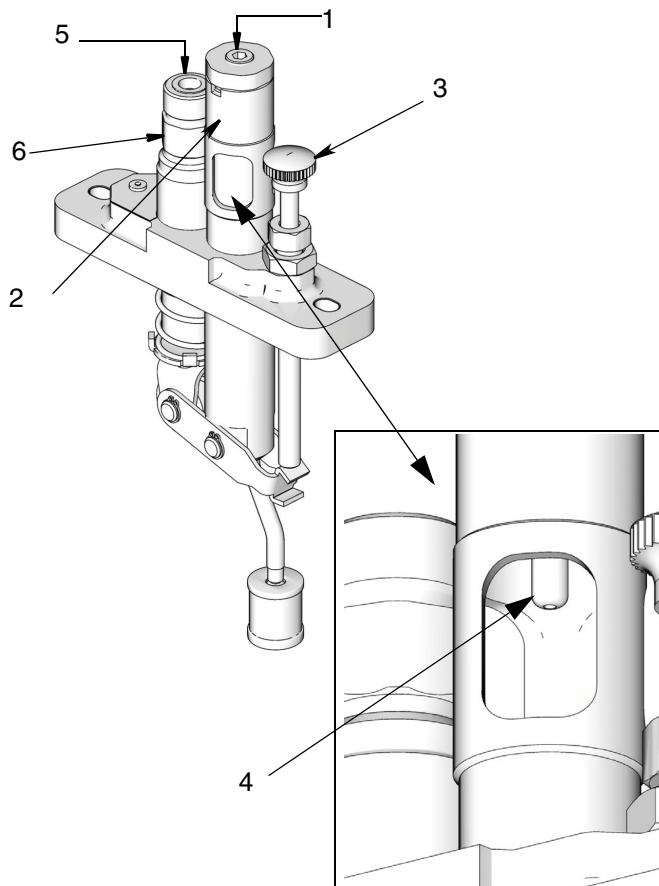

FIG. 4
Suction Fed Models (FIG. 4)
1. Remove the sight well plug (1) and outlet plug (5). Discard outlet plug (5).
2. Fill the sight well (2) to the top with appropriately filtered oil.
3. Operate the hand priming assembly (3) until the oil level drops below the end of the drip tube (4) (FIG. 4).
4. Apply thread sealant (user supplied) to sight well plug (1).
5. Replace the sight well plug (1), taking care to not allow any thread sealant into the sight well (2).
6. Torque sight well plug (1) to 35 ± 5 in. lbs (3.95 ± 0.6 N.m).
7. Continue to hand prime until oil expelled from the outlet (6) is free of air.
8. If all oil is evacuated from sight well (2), repeat steps 2 - 7 as often as necessary, until all air has been expelled.
1. Remove and discard the sight well plug (1) and outlet plug (5).
5. Connect fill line to sight well (2), taking care to not allow any thread sealant into the sight well.
8. Continue to hand prime until oil expelled from outlet (6) is free of air.